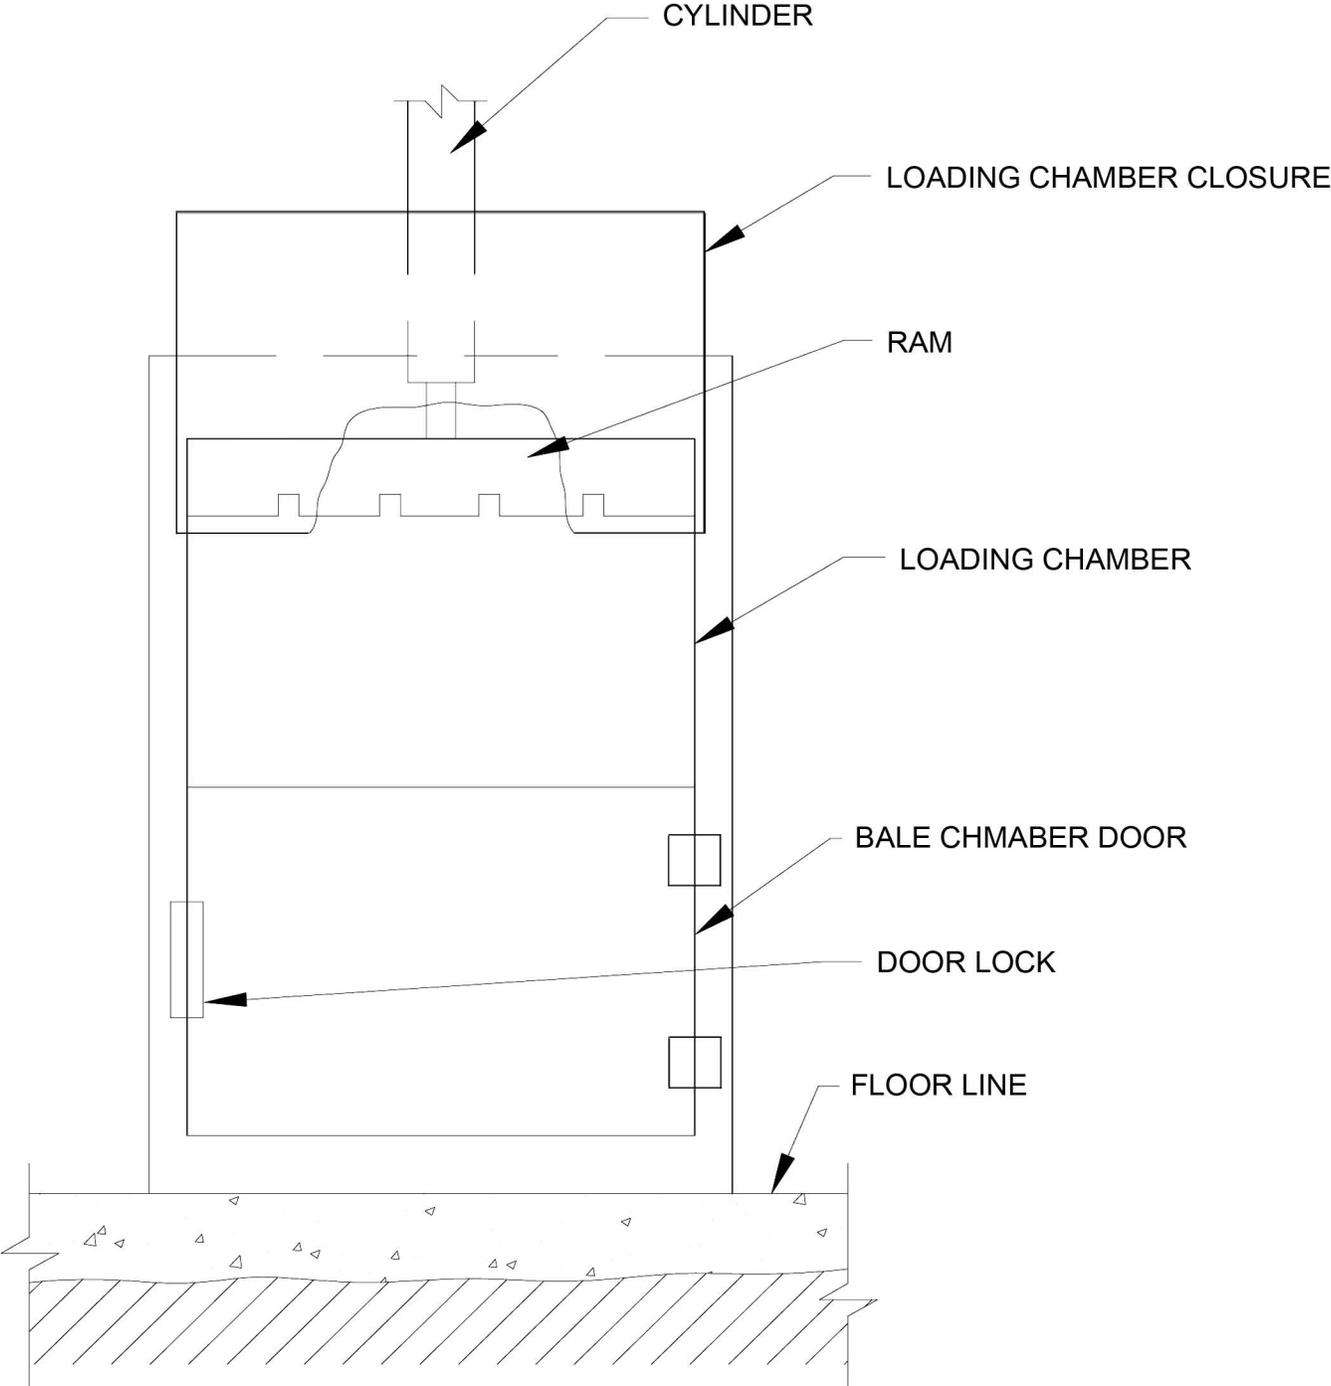

Figure 1 – Vertical Downstroke Baler
3.13 baler: A machine used to compress solid waste, primary materials, or recoverable materials, with or without binding, to a dense form that will support handling and transportation as a material unit. This specifically excludes stationary compaction equipment that may be used to compact materials into a container. (see Figures 1 through 7 for illustrations of types of baling equipment.)
3.66 ram (also known as platen): The powered component of a baler that moves the refuse from the loading chamber to where it is compacted. (See figures 1 - 6.)